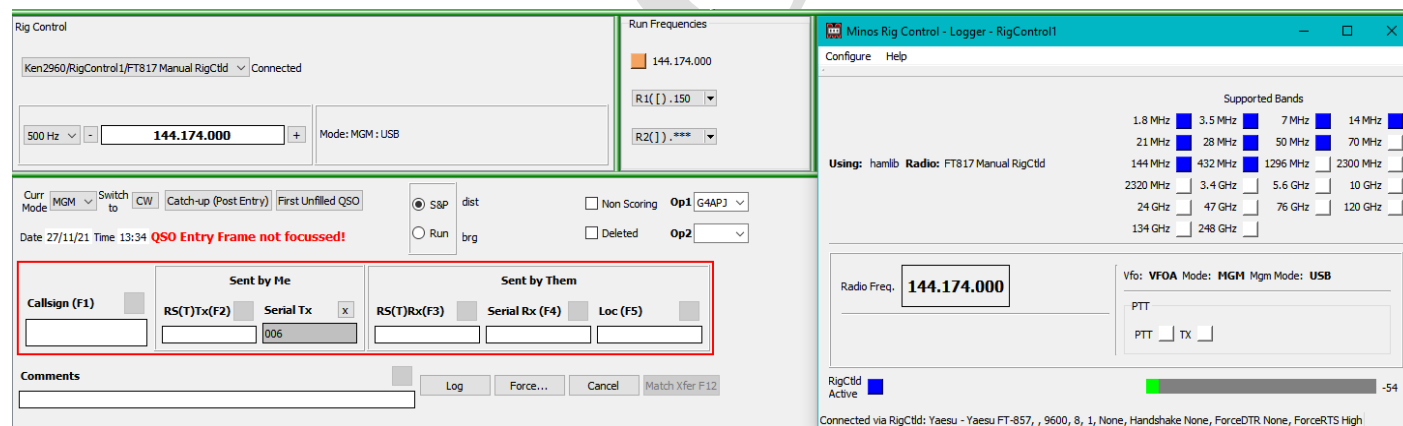
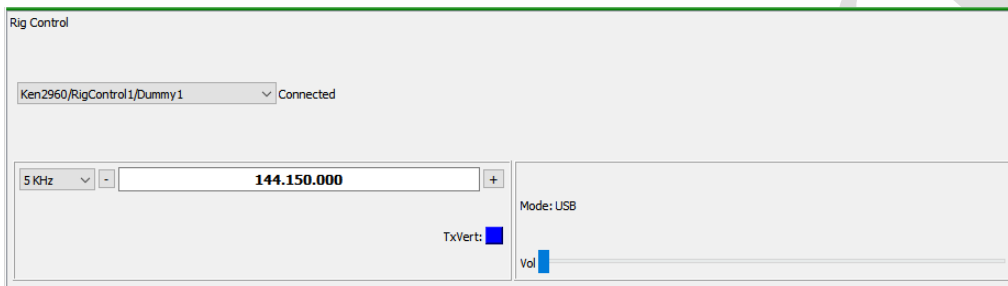

Figure 93 – RigControl connected to Logger
Figure 96 – RigControl panel within Logger
The ‘**Radio Name**’ field is used within a contest to select (or display) which rig is currently being controlled (e.g. in Figure 93).
- The **‘Radio Frequency Presets’** tab (Figure 91) displays the table of ‘base frequencies’ with a tab for each mode of CW/Phone/MGM. These define the frequency the rig goes to when a contest is opened or when a **“Quick Sel”** band change is made from the Rigcontrol panel of the Logger (Figure 93). The default frequencies are chosen to avoid such things as calling channels. This option allows you to change the start frequency to your favourite start frequency on a band⁸⁰. Minos must be restarted for any changes to take effect.
Once configured to operate in conjunction with the Logger a contest may utilise the rig selected within the application, and by default the RigControl panel becomes visible in Logger (see Figure 93). As can be seen, because the application is connected to the Logger, it shows ‘Logger’ in the title, together with the name assigned to the instance of the app being used they are using (RigControl, by default).
Within the RigControl panel (see Figure 96) on the top left is the name of the selected radio and its status which should normally be ‘**Connected**’ for correct operation⁸³.
If the selected radio supports RIT (through CAT) it can be enabled through the RigControl panel (see Figure 96) and it will then become visible in the RigControl panel within Logger (see Figure 16). **Turning it on (Figure 93)** then allows incremental tuning using the mouse wheel in the same manner as for the main frequency. A specific RIT frequency can also be entered, although that is unlikely to be very useful. There are a number of shortcut keystrokes available - listed in Figure 186.